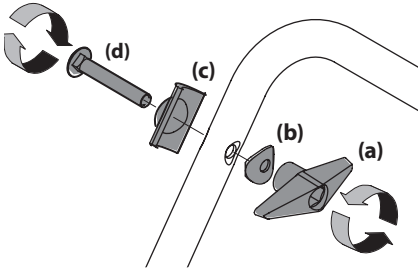

Figure 2-8
2. Remove the wing knob (a), saddle washer (b), handle tab (c) and carriage screw (d) on each side of the lower handle. See Figure 2-8.